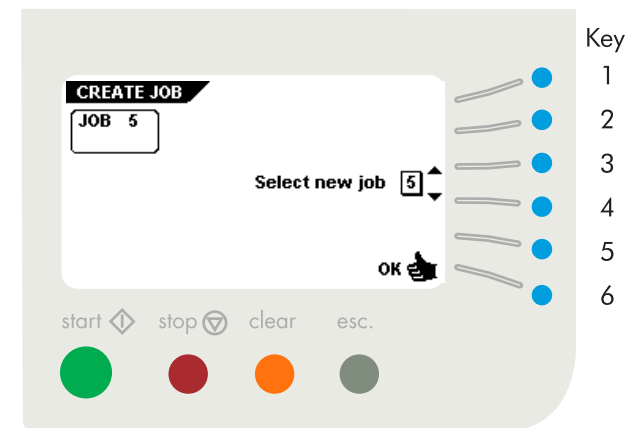

Fig. 31
After pressing key 2 in the "job menu" the display will show the "create job" menu as shown in fig. 31. If all jobs are programmed the display shows "No more free jobs".